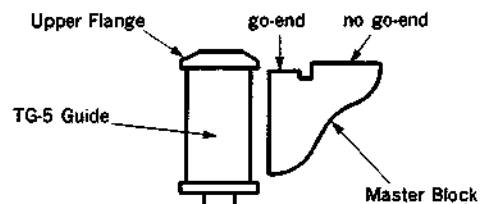

Fig. 6
- (6) Using the guide adjustment screwdriver, turn the upper flange on the guide until the specification is satisfied. (Fig. 6)
- (7) Perform tape path alignment of section 6.